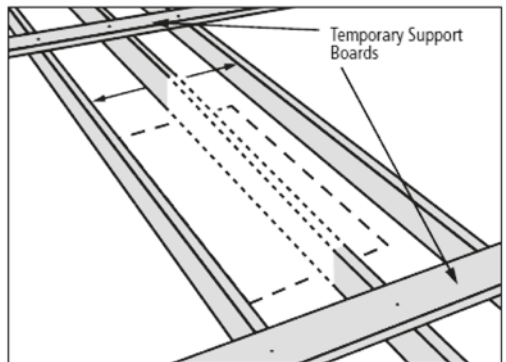

FIGURE 18
B. Rough opening with joist removal (Figure 18)